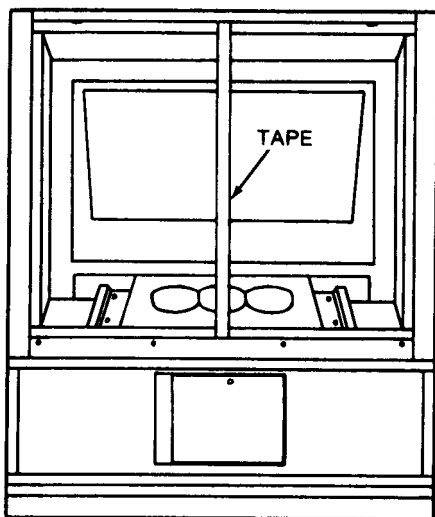

Fig. 1 - Focus Adjustment
6. Extend a length of masking tape (1/2" wide) vertically from the cabinet top rail to the cabinet FPA rail (see Fig. 1) to simulate the screen assembly. Align the tape with the vertical crosshatch line at the center of the display.